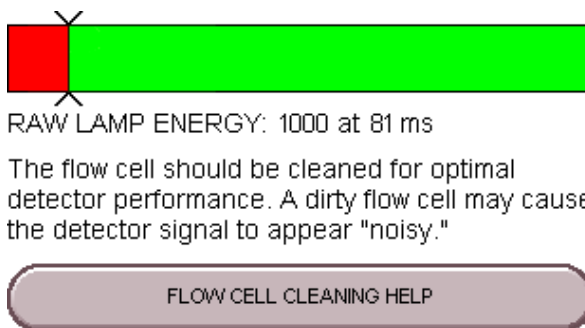

Figure 6-3 Raw lamp energy gauge
- Frequent messages recommending flow cell cleaning (Figure 6-3).
When the lamp energy is lower than normal, the system will recommend flow cell cleaning (Figure 6-3) before starting a separation run.
2. From the MANUAL CONTROL window, note the Raw Lamp Energy level at 254 nm. The Raw Lamp Energy gauge has two ranges: red and green. (Figure 6-3),
If the numerical values of the Raw Lamp Energy (Figure 6-3) do not change, or if the first number remains at zero, contact Teledyne ISCO's Technical Service department.
10. Perform the QUICK CLEANING AS REQUIRED (Section 6.4.2 and monitor the Raw Lamp Energy. (Figure 6-3)